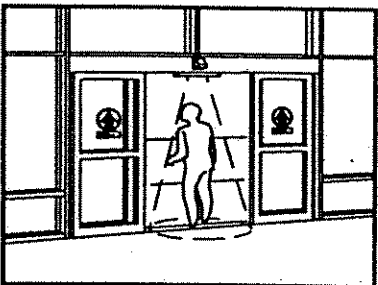
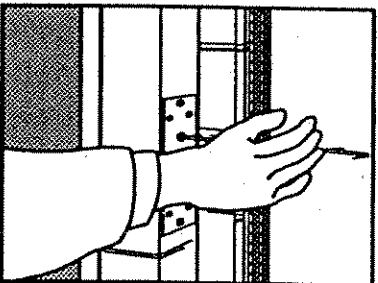

Figure 2
Figure 3
5. Open the door. Cover each doorway holding beam with your hand and stand motionless for several seconds. (See Figure 2) The door should remain open. Remove your hand and the door should close after the time delay expires. If other safety devices are being used, stand motionless in the door opening for 10 seconds. The door should not close. (See Figure 3)